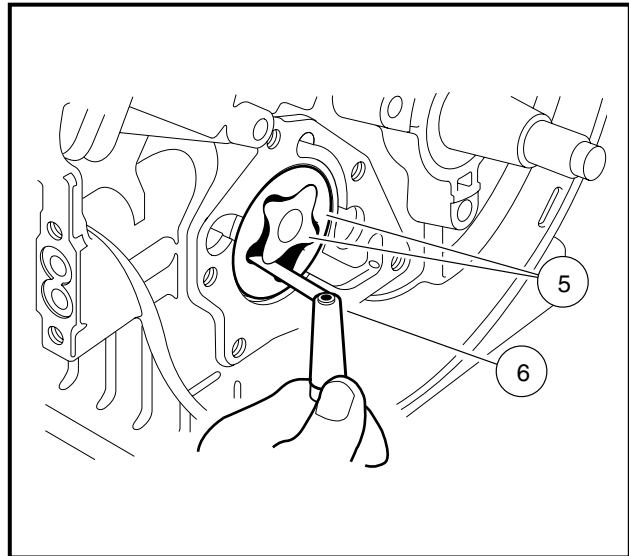

Figure 13-67 Measure Rotor Clearance
1. Check the clearance between the inner and outer rotors (5) with a feeler gauge (6). Measure the clearance between the high point of the inner rotor and the high point of the outer rotor (**Figure 13-67, Page 13-33**).